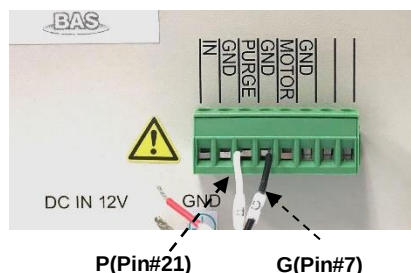

Figure 4-2 PURGE connection to the remote terminal
- Check the pin labels on the wire, for **gas purge control**, connect P(Pin#21,Purge), G(Pin#7,Ground) with the remote terminal PURGE, GND(next to PURGE) of RRDE-3A respectively. Please refer to Figure 4-2 and Table 4-1.